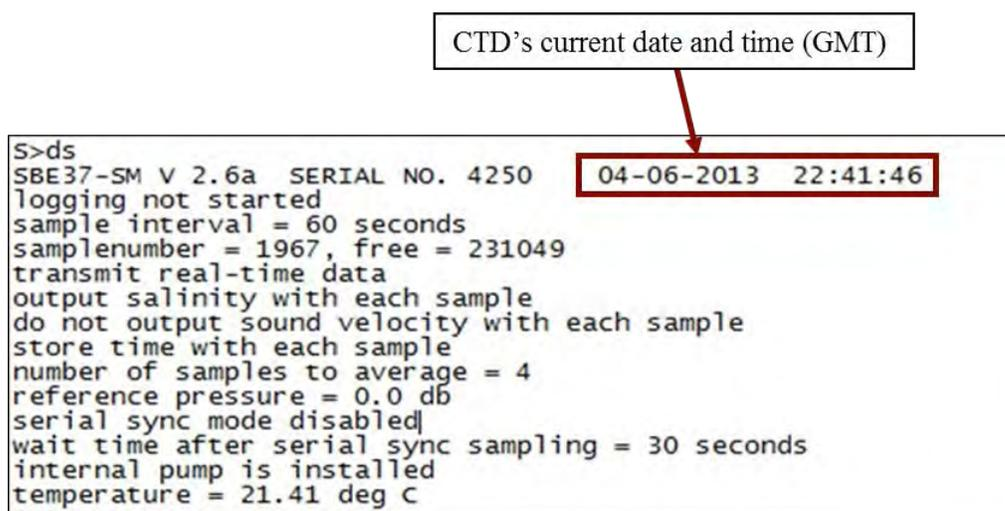

Figure 22. Example text of display status shown in the SeaTerm communication screen. The red box highlights where to find the current CTD date and time.
7. Confirm that CTD date is current and time is set to Greenwich Mean Time (GMT) (Figure 22). Otherwise, reset them by following these steps: